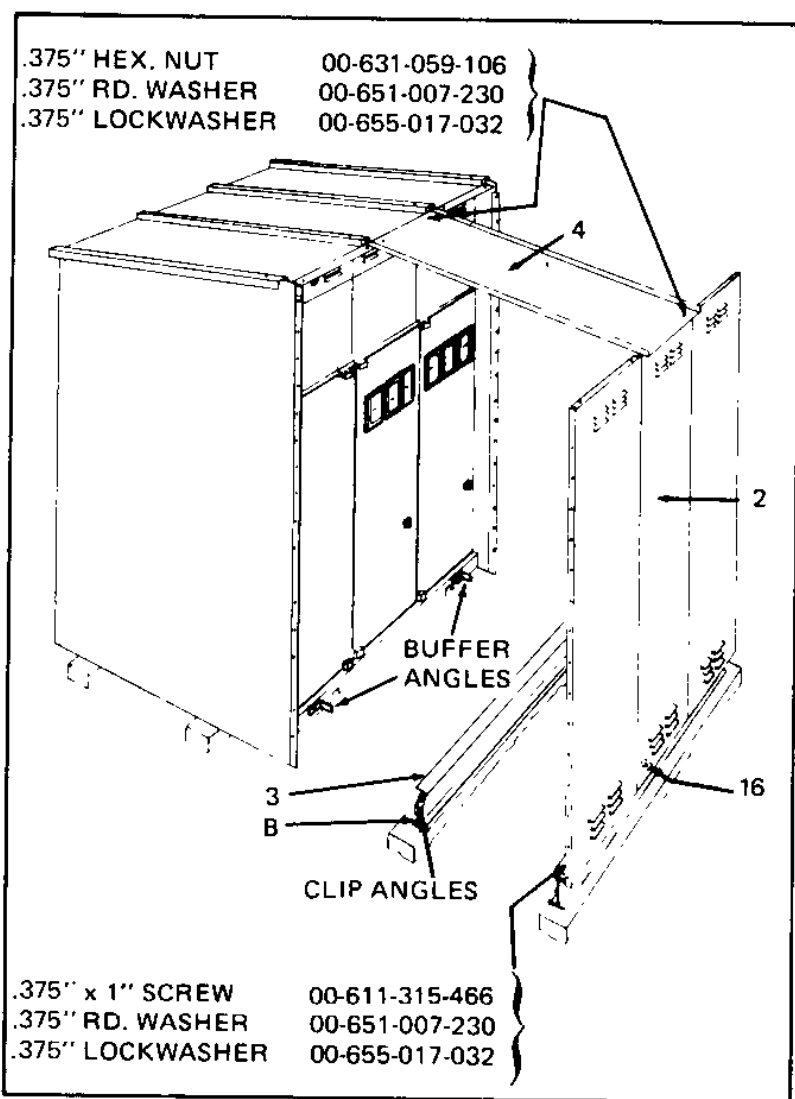

Figure 25. Aisle Wall Assembly – Single Aisle Layout
1. Temporarily support the aisle wall assembly (removed for the plumb bob check) in its permanent position as shown in the general arrangement drawing (see Figure 25). Remove the aisle beam (3) from top of the wall assembly (2) and place the beam, with clip angles near the top, in position B.
2. Put roof covers (4) in place to hold top of aisle wall in place. Do not tighten hardware. Remove and discard the buffer angles at the bottom of the unit. These angles are installed to prevent bending